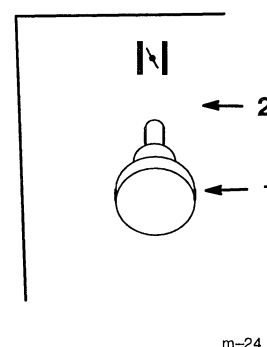

Figure 4
6. Move throttle lever to “FAST” (Fig. 4).
9. After the engine starts, move the choke lever to “OFF” (Fig. 4). If the engine stalls or hesitates, move the choke lever back to “ON” for a few seconds. Then move the throttle lever to desired setting. Repeat this as required.